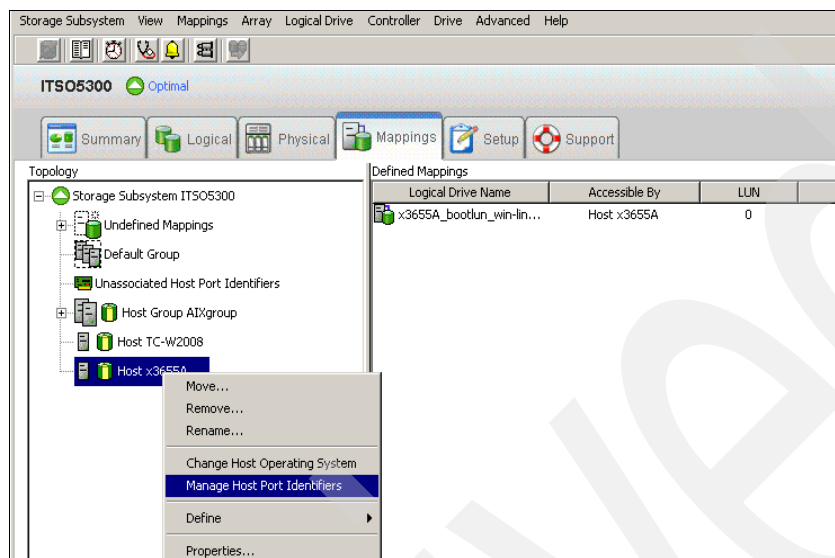

Figure 5-75 Storage Manager - Manage Host Port Identifiers
1. In Storage Manager mapping view, select the host and define the second host port of the server to be part of the storage partition as seen in Figure 5-75.